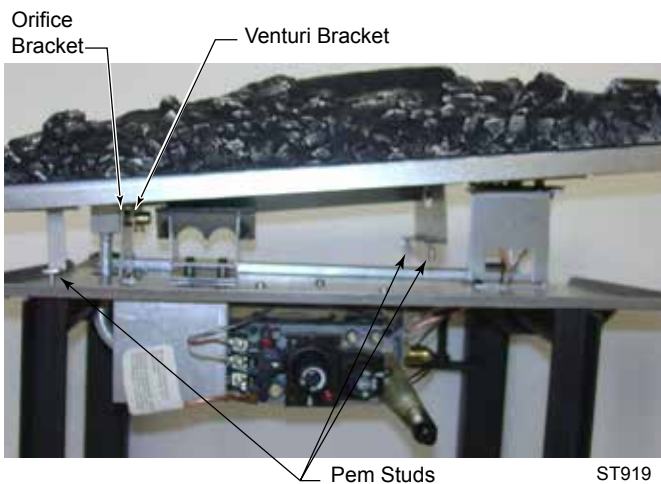

Fig. 82 Tilt ember bed slightly to correctly place on venturi and air shutter.
- Carefully remove ember bed by tilting the right side up and lifting out toward the right side of the unit. (Figure 82)
Thread and tighten 3/8" nuts back onto pem studs on underneath side of control panel, reversing Step 1 shown in Figure 82.